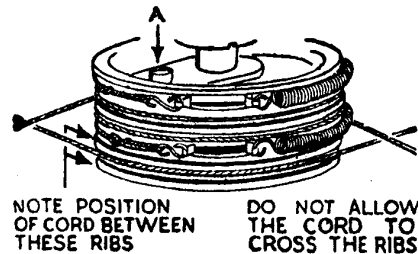

Fig. 7.
See that the spring anchor plates on the cord drum are at the top of drum when vanes are fully engaged. The hexagon head screw fixes position of drum. Also see that the screw A, Fig. 7, is in the centre of its radial slot.
It is most important that the cord lies in the grooves provided on the drum (see Fig. 7).
2. Having switched off again, remove MHD4 valve, slacken off the screw A, Fig. 7, and whilst holding the moving vanes of variable condenser turn the tuner knob until the station being received is accurately indicated.